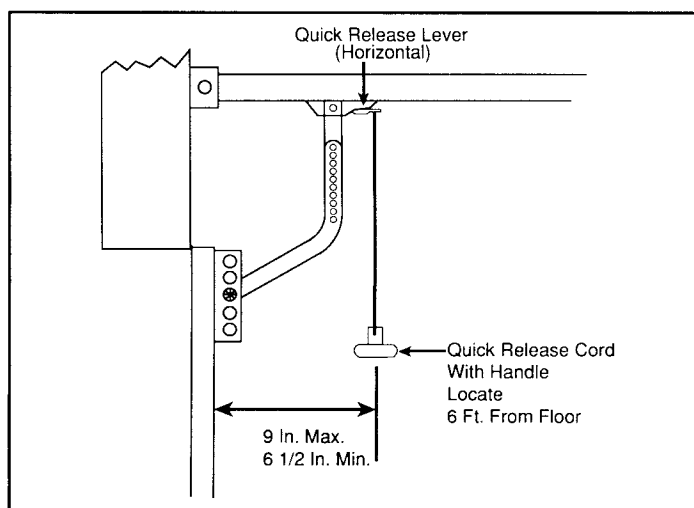

Figure 16
Step 34: Connect the two free ends of the door-arm assembly by rotating the curved section upward to the straight section so that two holes in each section can be matched (see Figure 16). The straight section should be kept as straight up and down as possible.
Step 35: Attach pull cord to quick-release lever on trolley bottom as shown in Figure 16. The red handle should be 6' above the garage floor or high enough to clear vehicles entering the garage.
The quick-release lever (with pull cord attached must be in the horizontal position (up) (see Figure 16). If the quick-release (disconnect) lever is in the vertical position (down) the trolley bottom will not engage the "traveler" that rides the chain drive and the door will not move.